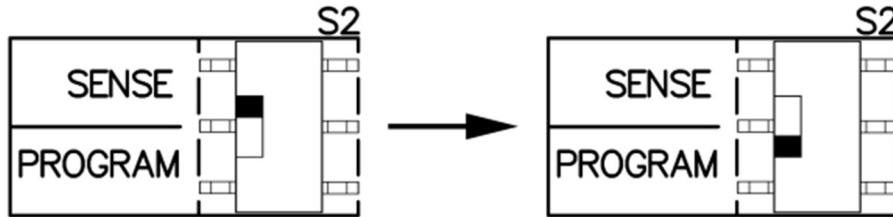

Figure 5.1 Programming switch S2.
- Move slide switch S2 to programming. See Figure 5.1